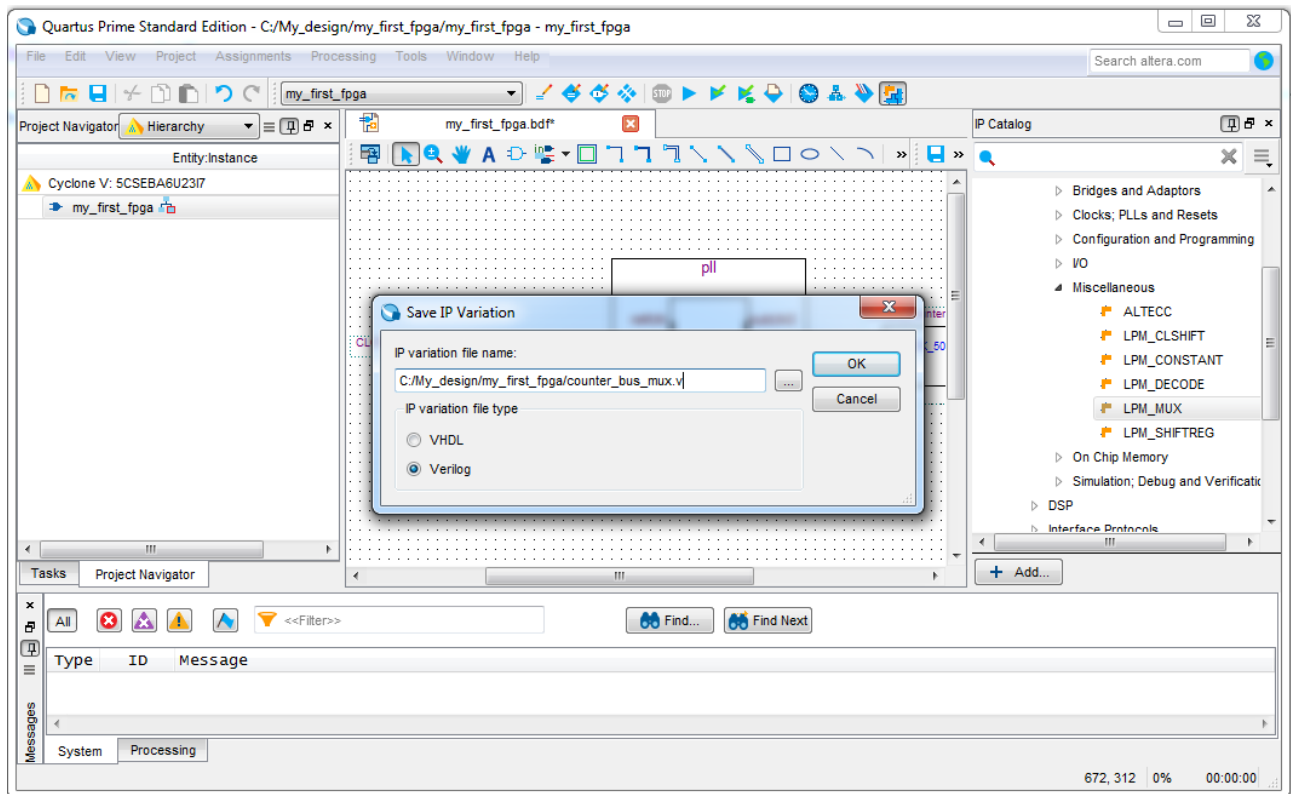

Figure 3-22 Selecting lpm\_mux
5. Choose the device family that corresponds to the device on the development board you are using, choose Verilog HDL as the output file type, and name the output file counter\_bus\_mux.v (see Figure 3-22).